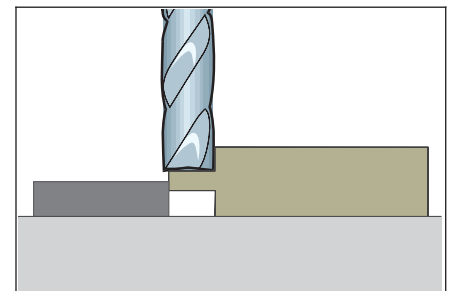

Figure 3 Mill a tongue onto the edge of the replacement base material.
6. Install an end mill into the chuck of a precision drill press. Machine a tongue onto the entire mating edge of the replacement base material. The dimensions of the tongue should match the size of the milled groove. (See Figure 3.)